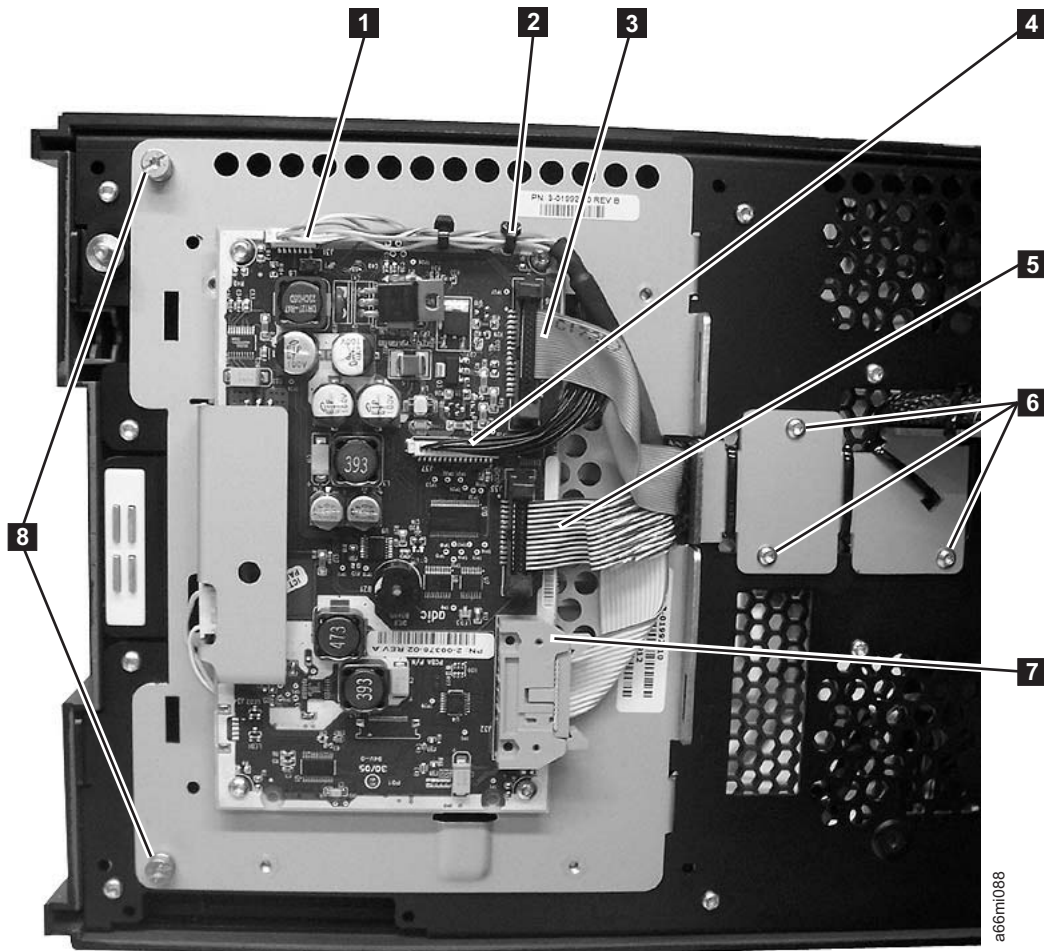

Figure 8-73. Operator Panel Cable Connectors
- e. Remove cable connectors J36 (see **3** in Figure 8-73 on page 8-73), J35 (see **5** in Figure 8-73 on page 8-73), and J32 (see **7** in Figure 8-73 on page 8-73) from the Operator Panel board.
- f. Remove the 3 screws (see **6** in Figure 8-73) from the cable retainer bracket on the back of the door.